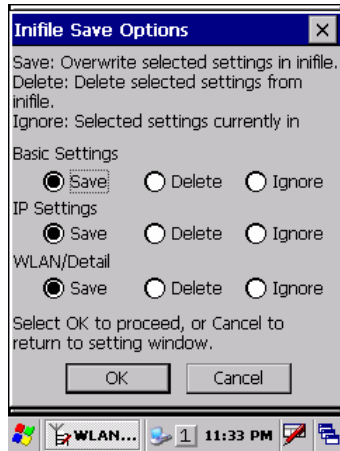

Figure 5.27
5. If **OK** button in the popup warning message (see Table 5.7 for description of NetUI/NetUI radio button) is clicked, the screen in Figure 5.27 appears. Click **OK** button to perform a reset on the terminal so that the setting takes effect.